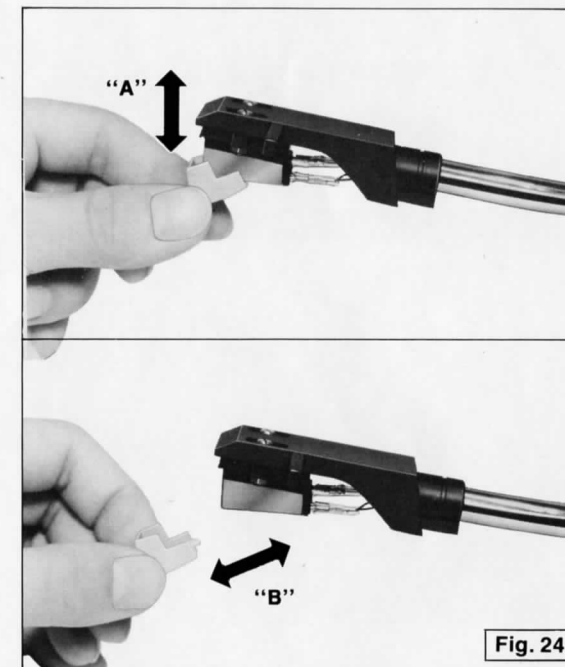

Fig. 24
■ Replacement of the stylus. (See Fig. 24.)